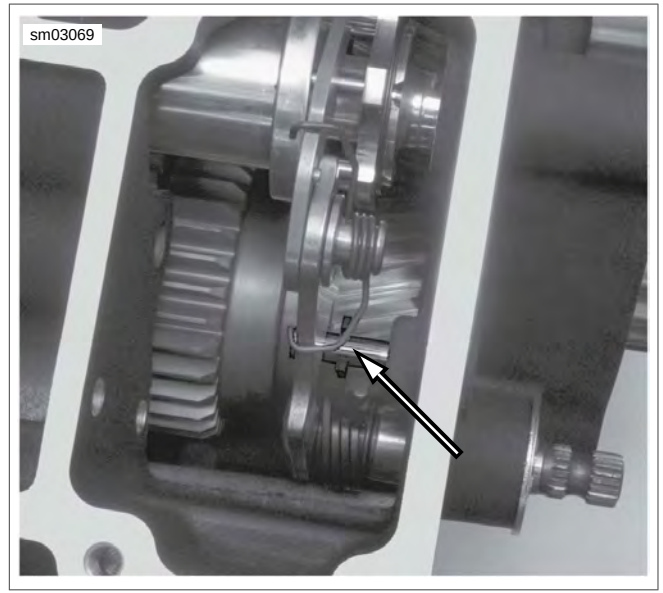

Figure 6-55. Shifter Shaft Lever Spring
6. See Figure 6-55. Verify that pin sits inside shifter shaft lever spring.